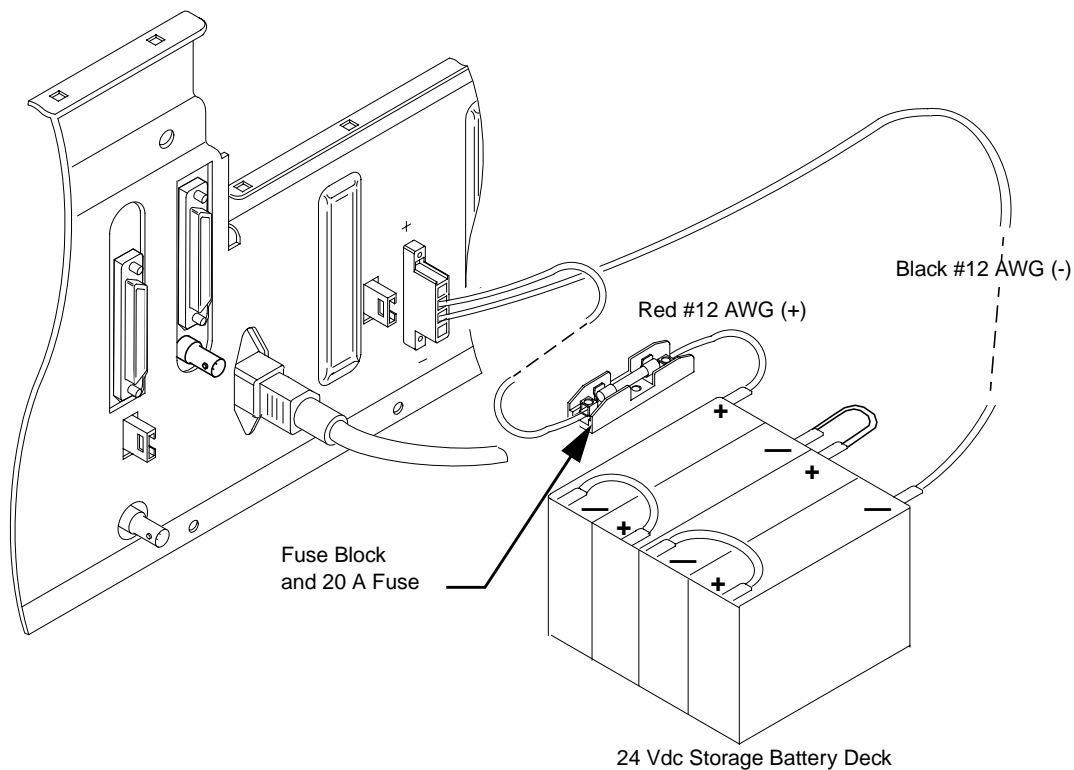

Figure 5-9: Battery Revert in a High Power Station
1. Arrange the batteries to facilitate connection (- to +) and place them together to form a deck (see Figure 5-9).